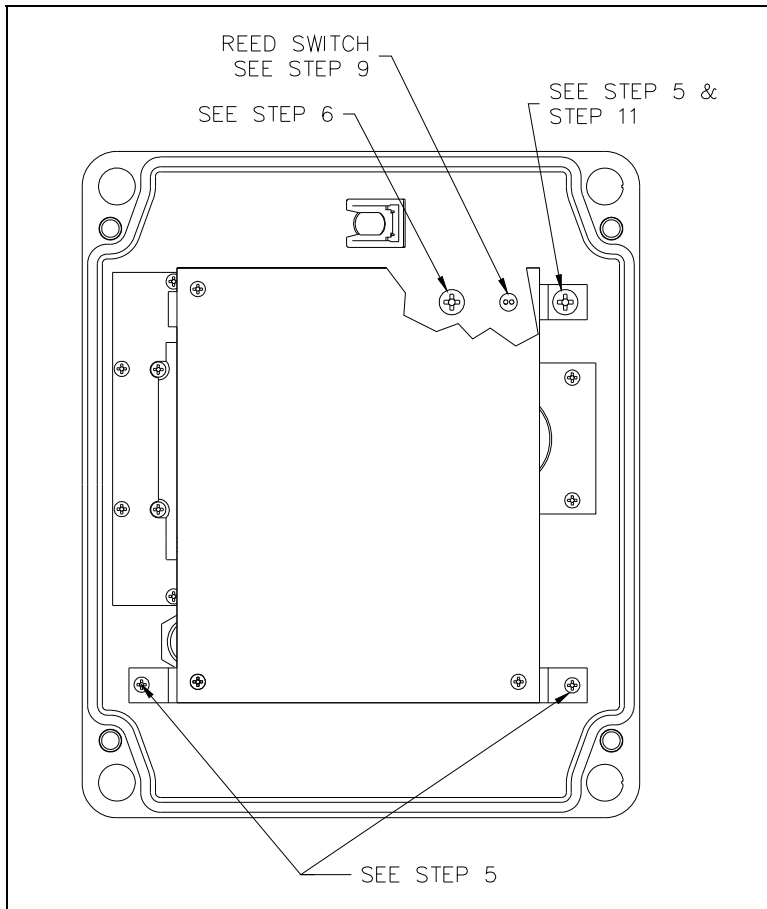

Figure 4. Emergency/Smart/VoIP Telephones—Inside Front Panel
6. Remove the remaining screw that secures the handset cradle to the front cover (See Figure 4).
1. Thread the leads of the reed switch through the center top hole (See Figure 4).
2. Secure the plastic cradle on the front cover using the #8 thread cutting screw (See Figure 4).